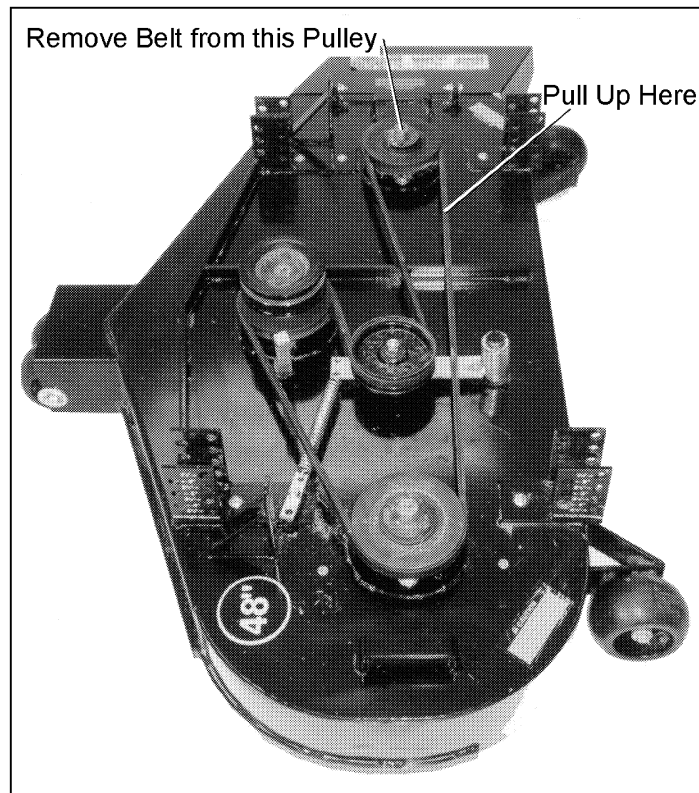

Figure 23
3. Work the deck belt off of the pulleys, starting with the pulley closest to the discharge chute (*Figure 23*).